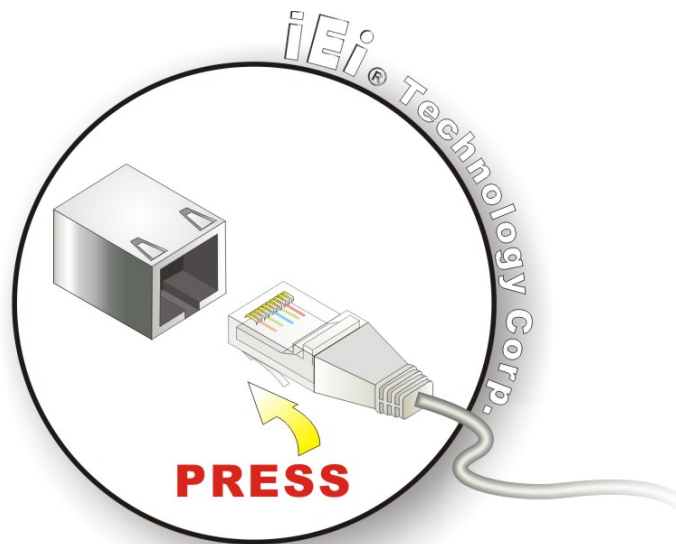

Figure 4-23: LAN Connection
Step 2: **Align the connectors.** Align the RJ-45 connector on the LAN cable with the RJ-45 connector on the WAFER-NM701-1007U. See **Figure 4-23**.